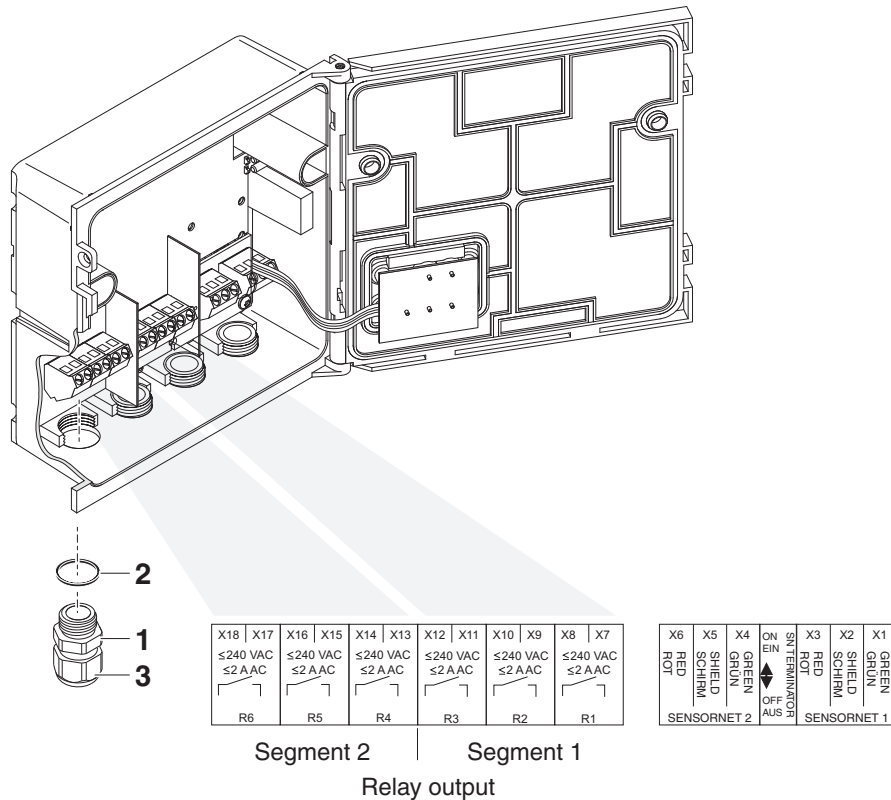

Fig. 3-1 Terminal strip with the relay connections
- 2 Screw the cable gland (pos. 1 in Fig. 3-1) with the sealing ring (pos. 2) into the module housing.
- 3 Loosen the coupling ring (pos. 3 in Fig. 3-1).
- 6 Tighten the coupling ring (pos. 3 in Fig. 3-1).